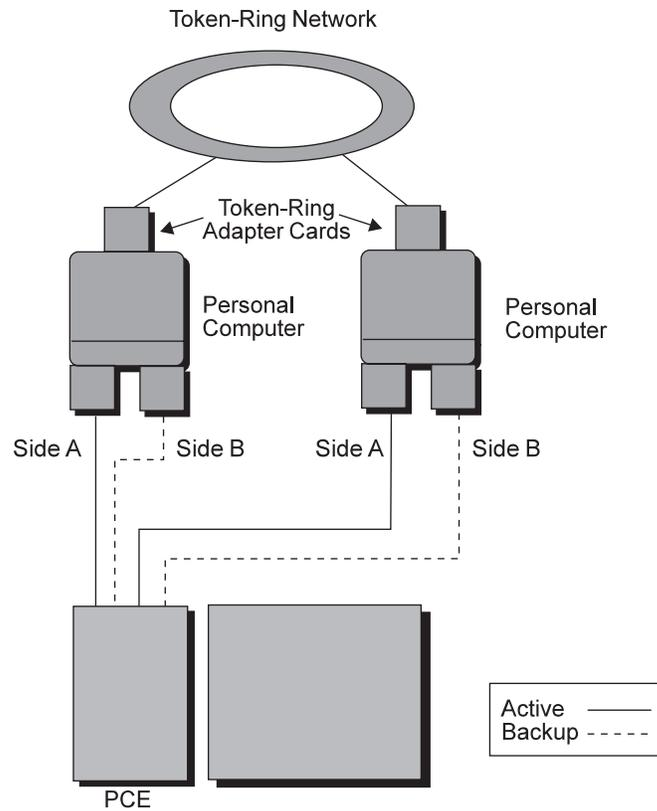

Figure 29. Partitioned 9021 System Console Connections with Backup
*Physically Partitioned 9021, 3090, and 3084 System Console Connection with Backup:* Figure 29 on page 79 shows both primary and backup system console connections to both sides of a physically partitioned 9021 processor.